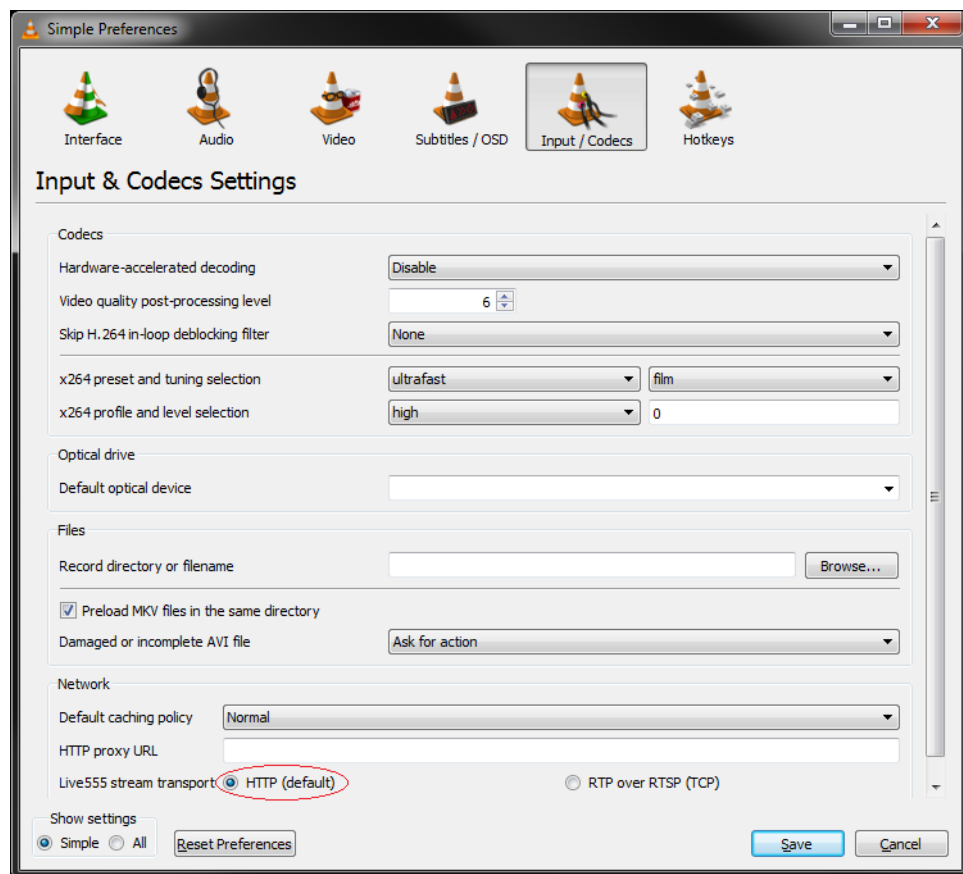

Figure 6-4 VLC configuration
2. At the bottom of the screen, choose the **HTTP** option. See Figure 6-4.